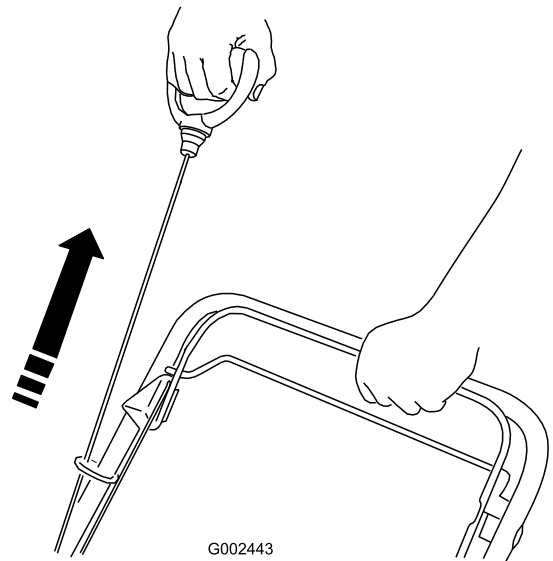

Figure 19
4. Start the engine using the recoil starter (Figure 19).